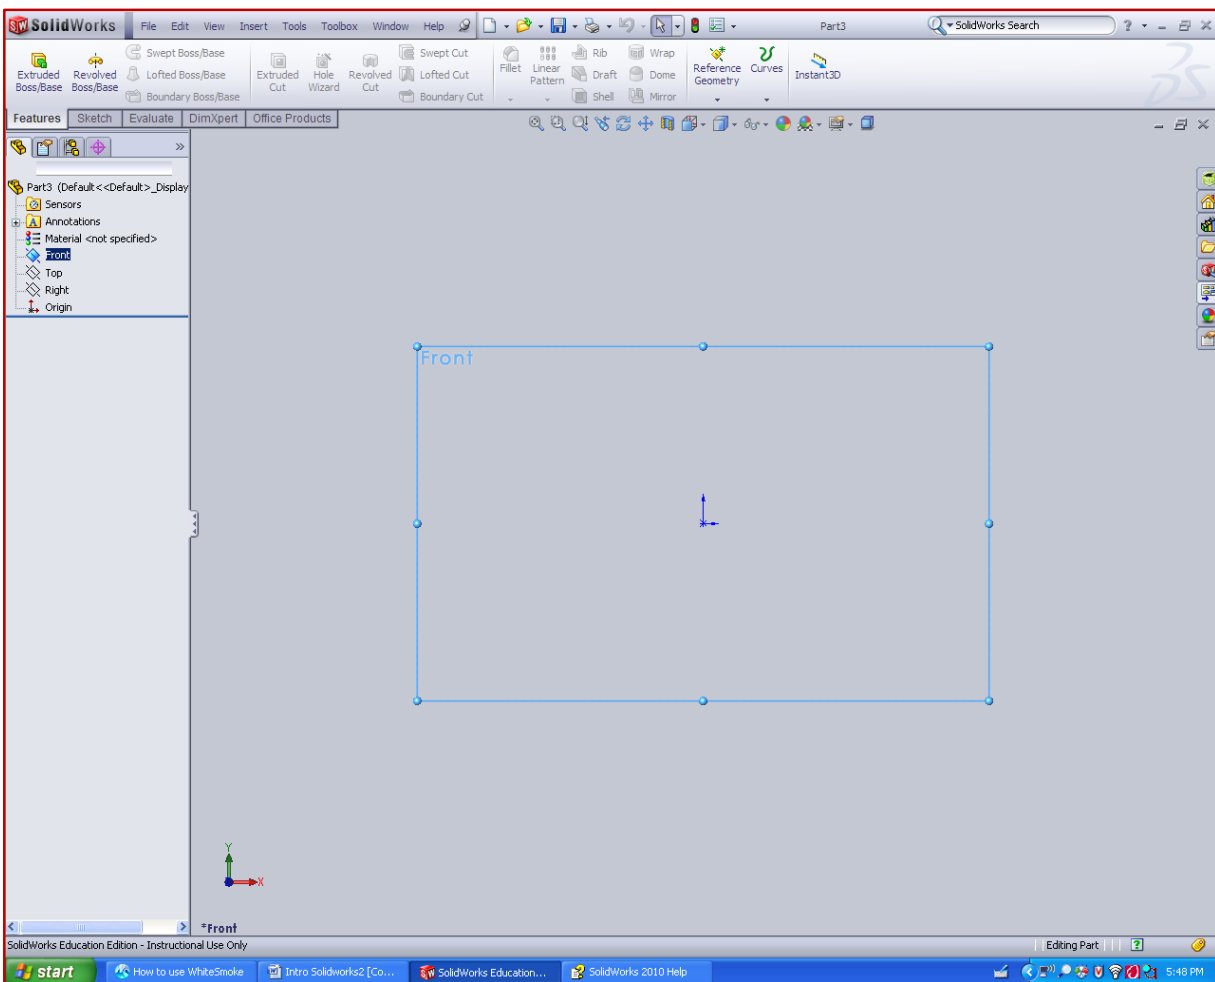

Figure 3.2 – Selecting the Front Plane
Step 12: Open a new document using the **InchPart** template and click to select the **Front Plane** in the **FeatureManager design tree** as shown in Figure 3.2. This will be the plane that we will use to sketch the cross-section of the part. In a cube, this is the plane in front of you. The other planes we could use to sketch are the top plane and the right side plane. A good idea is to hand sketch the assembly that you need and plan how you will create each part, including what plane is the best to use for sketching.